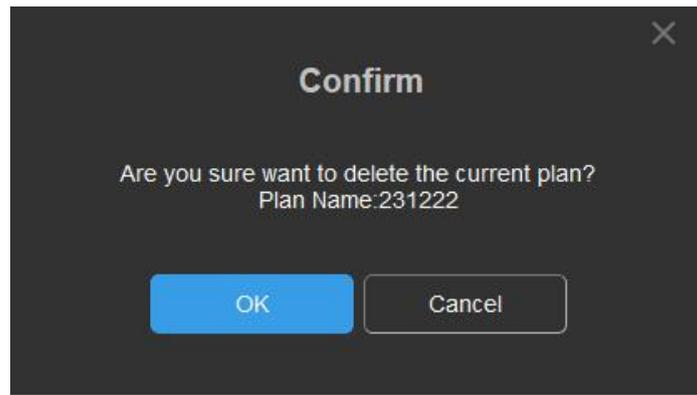

图4-14 Delete提示框
(3) 点击菜单中的“Delete”，弹出提示框，如图4-14所示